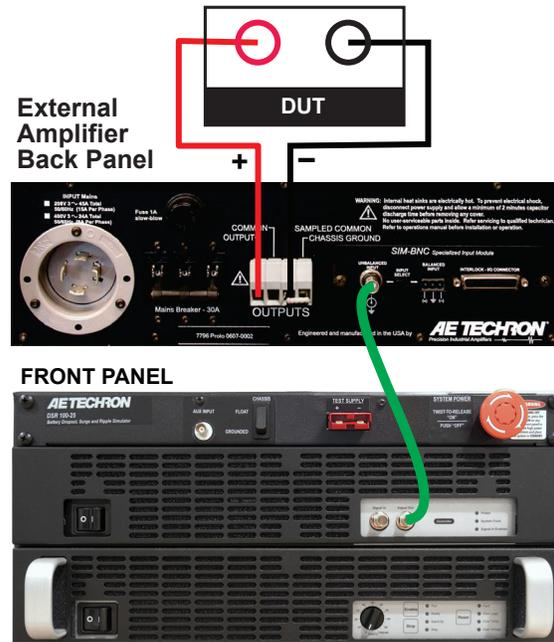

Figure 4.8 – Connecting an External Amplifier
2. **Connect External Amplifier:** Use a BNC cable to connect from the BNC connector labeled Signal Out located on the DSR 100-25 waveform generator's front panel to the signal input connector on the external amplifier. See **Figure 4.8**.
3. **Connect the Outputs:** Using the supplied mating output connectors and wiring appropriate for your application, connect from the external amplifier's positive and negative output connectors to the device under test. See **Figure 4.8**.